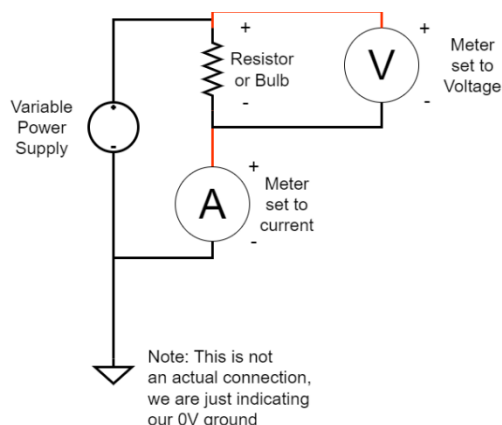

Figure 7: Circuit for simultaneous voltage and current measurement.
1. Now build the circuit shown in Figure 7 with two meters, one for current and one for voltage, and the light bulb. Be careful to check you have meters and leads all set up correctly before applying power to avoid a short circuit.